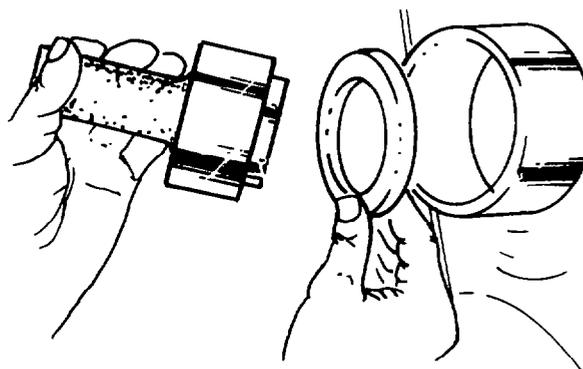

Fig. 86 — Installing Front Main Seal
- a. Use tool J-24230 to fit the front main seal into the timing case cover; drive the seal into the cover until it butts fully against the seating collar (see fig. 86).